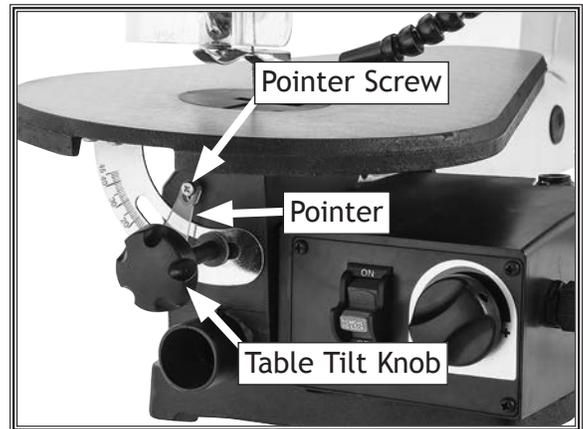

Figure 33. Components for calibrating table tilt.
3. Loosen table tilt lock knob (see **Figure 33**).